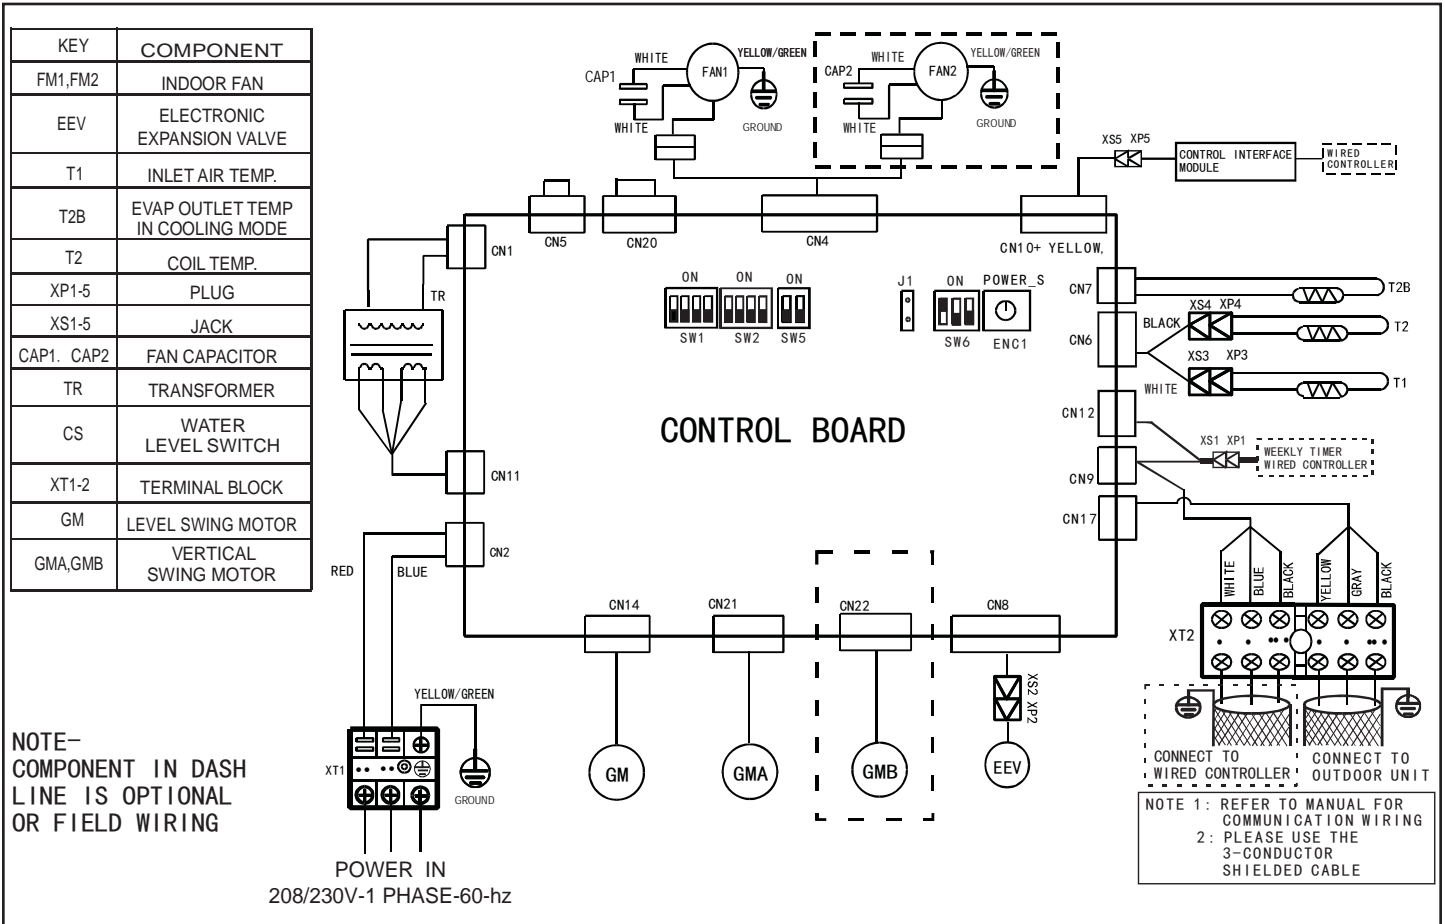

Figure 12. VCFA012-48S4-1 Wiring Diagram
6. Locate the terminal strip in the control box. Connect the power wiring (sized per NEC/CEC and local codes) and communications cable (three-conductor shielded cable) per figures 12 and 13. Refer to unit nameplate for rated voltage.